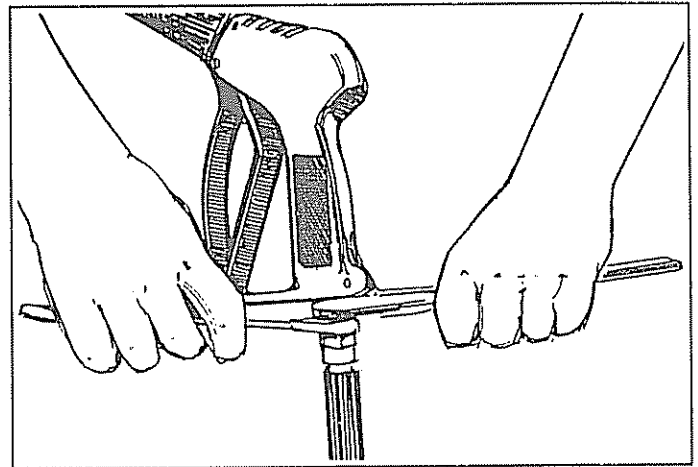

FIG. 2
- Unravel high pressure hose and attach to spray gun (Fig. 2). Tighten with two adjustable wrenches as illustrated. Do not try to tighten without holding second nut.